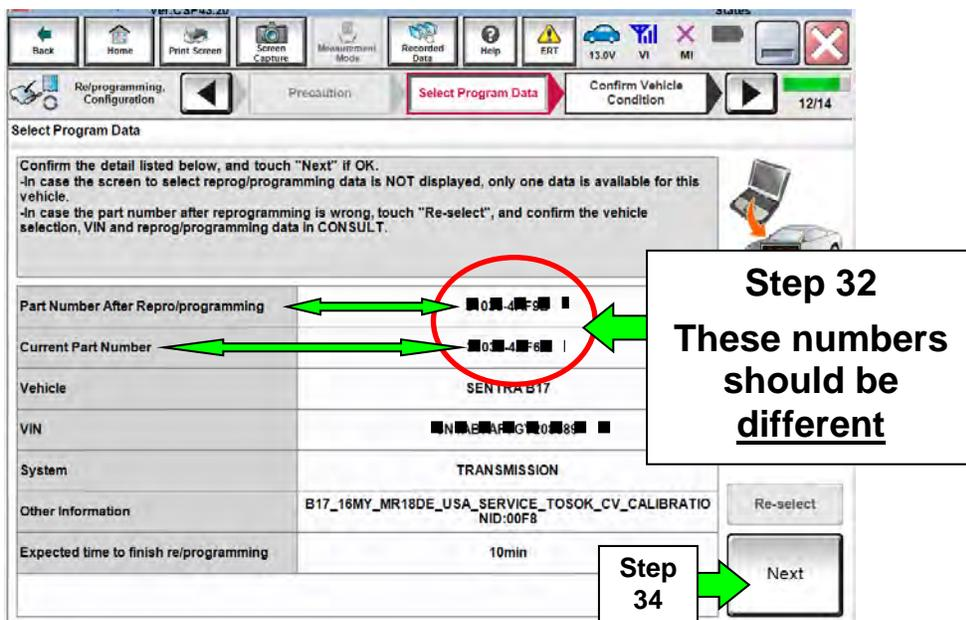

Figure 17
- Read / compare the **Current Part Number** and **Part Number After Reprogramming** (see Figure 17).